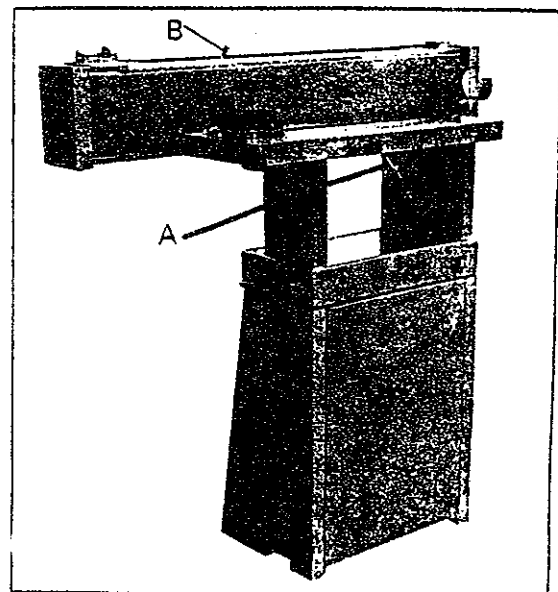

Fig: 4
1. SANDING TABLE CAN BE ADJUSTED  $90^{\circ} - 180^{\circ}$ , SEE FIG. 4
2. ADJUST CLAMP HANDLE (B) AT DESIRED TO CHANGE NEW BELT. SEE FIG. 4
3. LOOSEN ANGLE LOCK KNOB (A) TO SET AND TIGHTEN THE ANGLE